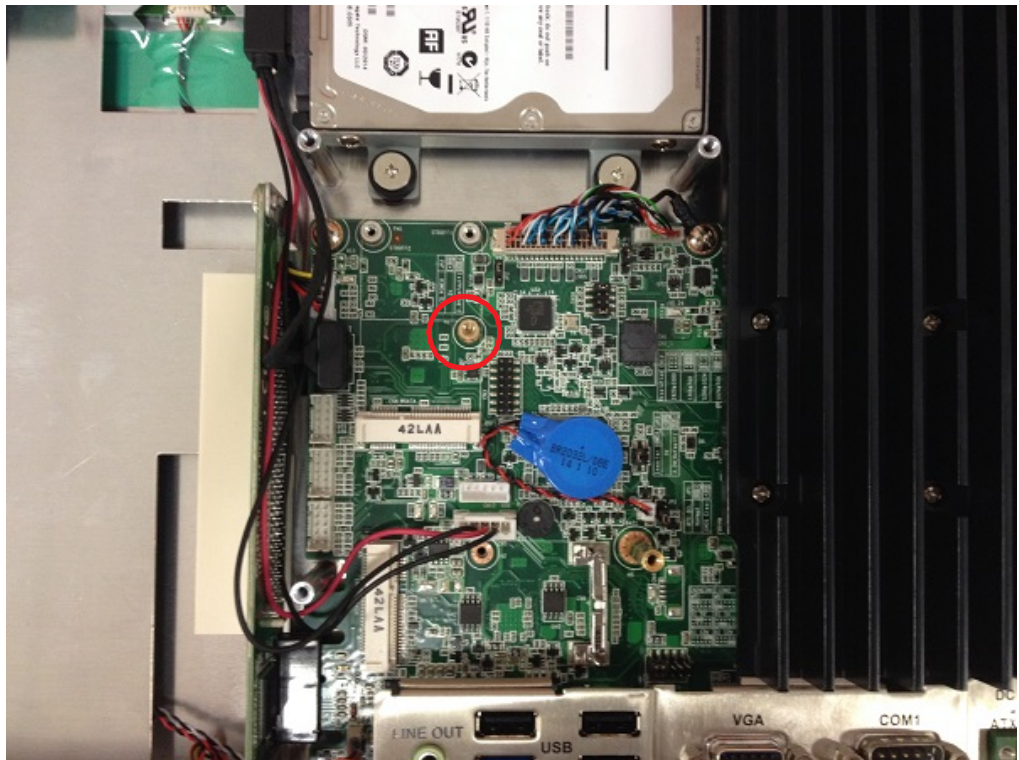
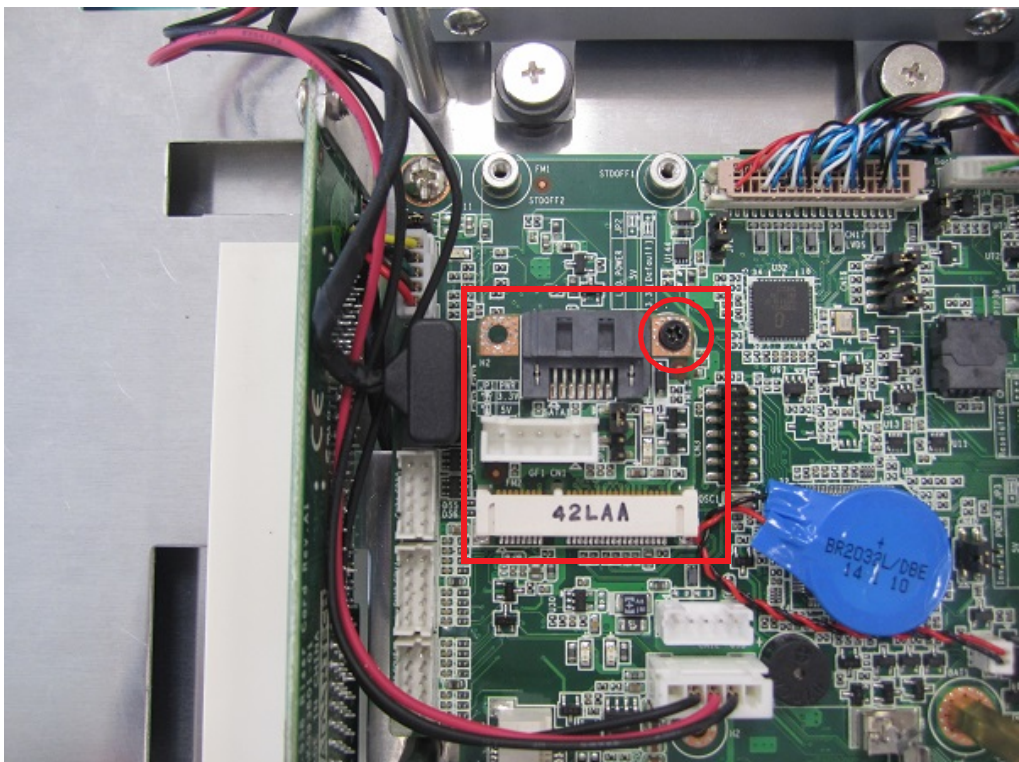

Figure 2.40
Figure 2.41
5. Retrieve a copper cylinder screw from the accessory box and affix it to the SATA micro ATX board in the position circled in red in Fig. 2.40. Then use a screw to secure the mini SATA to the SATA micro ATX board (the position is indicated with a red rectangle in Fig. 2.41).